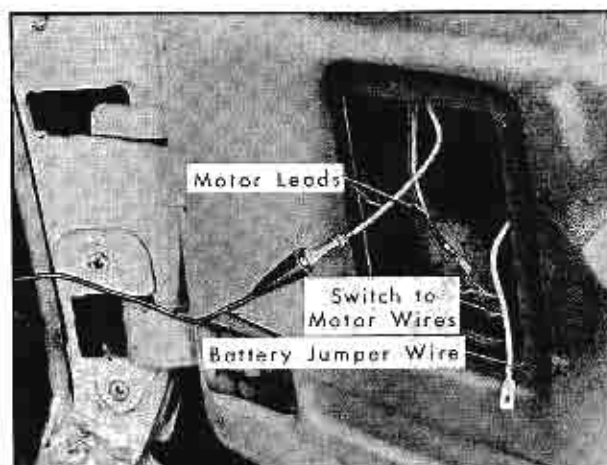

Fig. 3-94 Checking Door Window Motor
2. Connect one end of a #12 jumper wire to battery positive pole and the other end to the lowering cycle motor lead terminal. Fig. 3-94. If motor fails to operate, motor unit is defective or a mechanical bind exists in the window assembly.